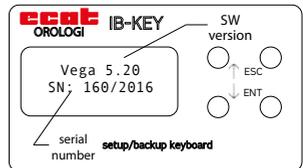

Fig. 1
1. Connect the IB-Key programming terminal (MOT9004035) via the RS485 connector, located on the electronic control unit next to the green LED. Once connection is complete, the start screen will appear on the display (fig.1).